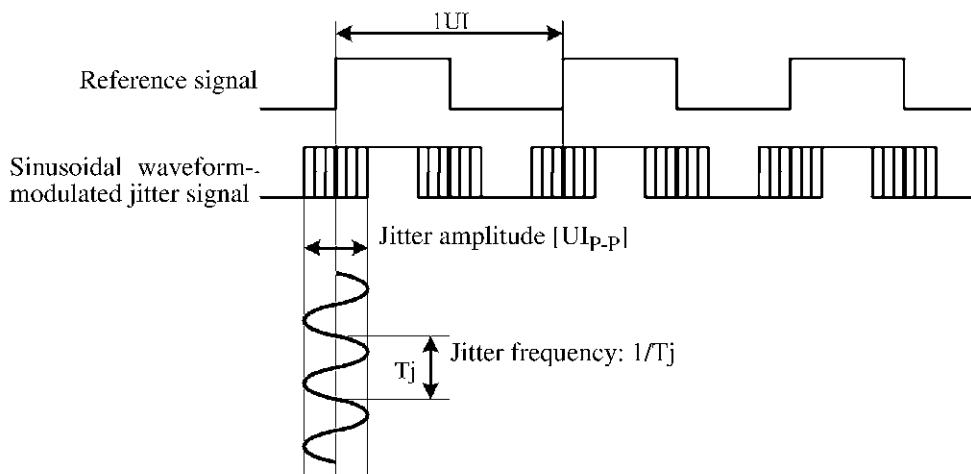

Figure 5-6 Definition for Amount of Jitter
Unit Interval (UI) is used as a unit, and 1 UI is defined as one cycle of the bit clock. Figure 5-6 shows the relationship using an example clock signal.